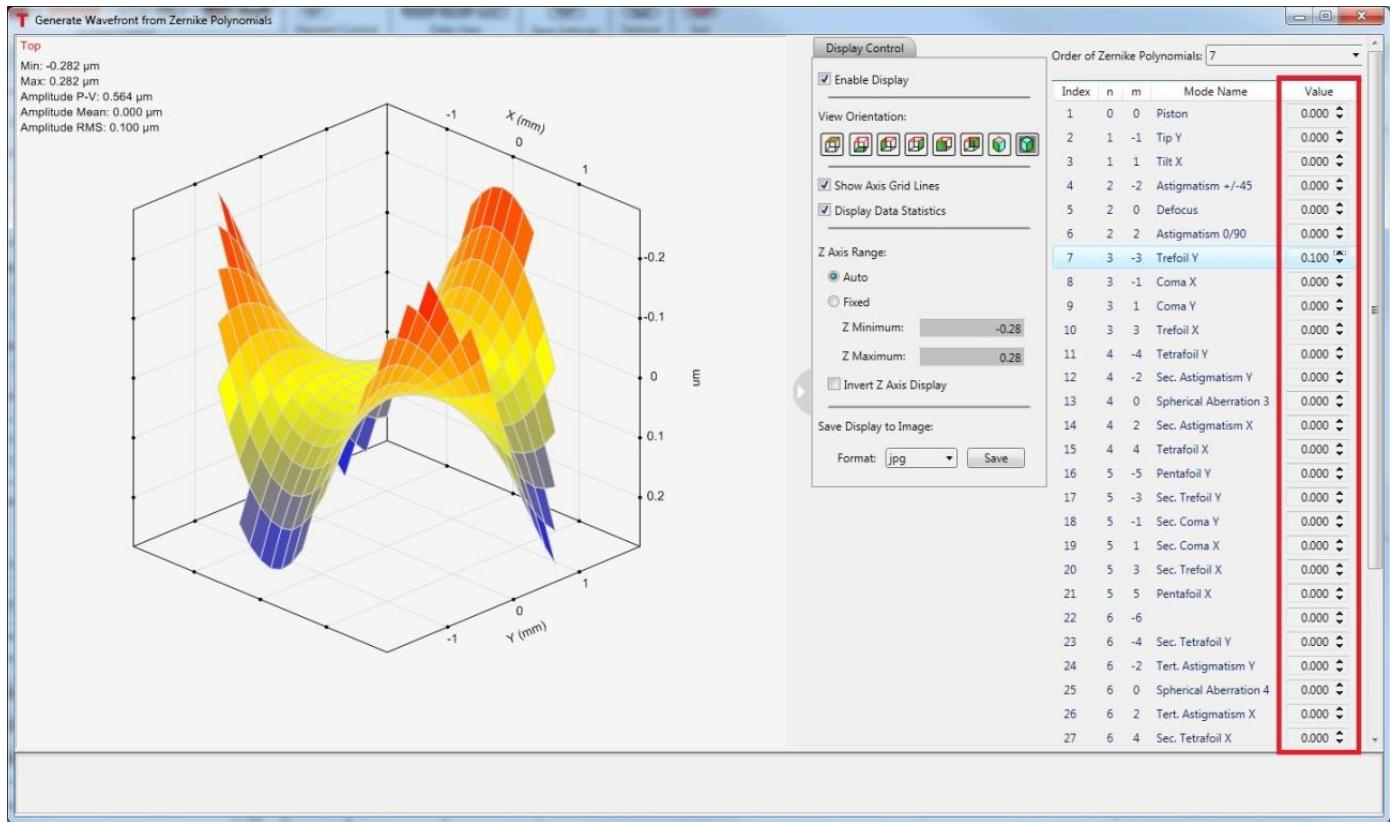

Figure 112 Wavefront Settings Window – Zernike Reference Wavefront Generator Window
- **Button (eye)** – Click this button to display the wavefront generated from one of the three means mentioned above in a separate window. See Figure 112.